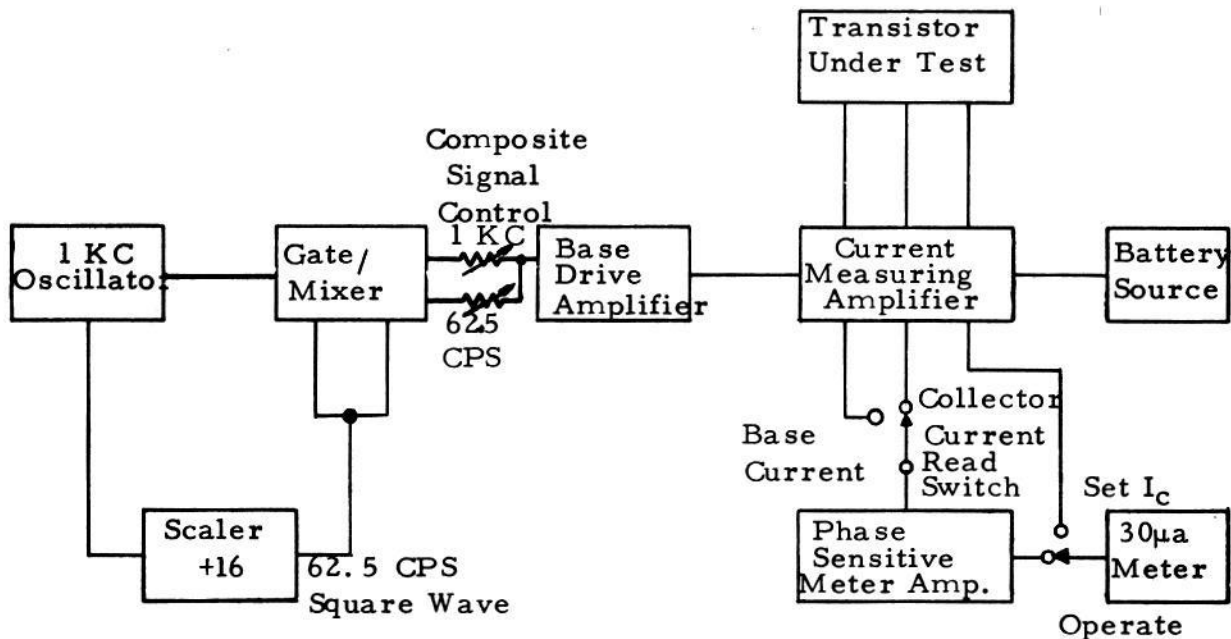

Figure 4-1 Block Diagram - AC Current Gain Measuring Circuit
4.1 AC Current Gain (Refer to Fig. 4-1 and 4-2)